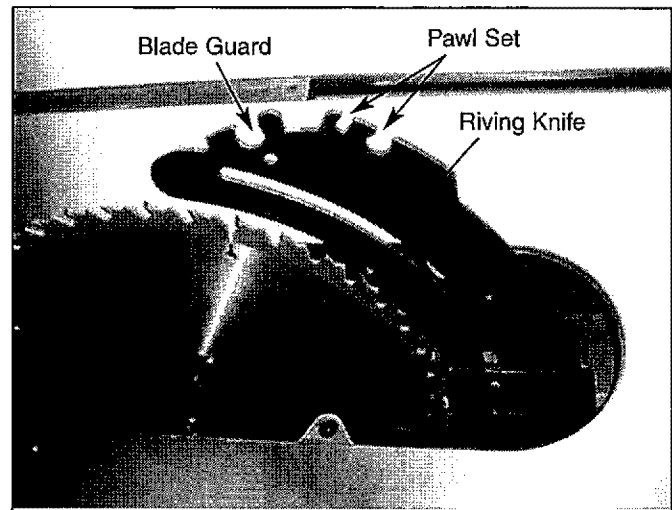

Figure 33 - Blade Guard and Pawl Attachment
- Place the slot of blade guard body over the riving knife. Slot of bushing is placed in the notch indicated in Figures 33 and 34.